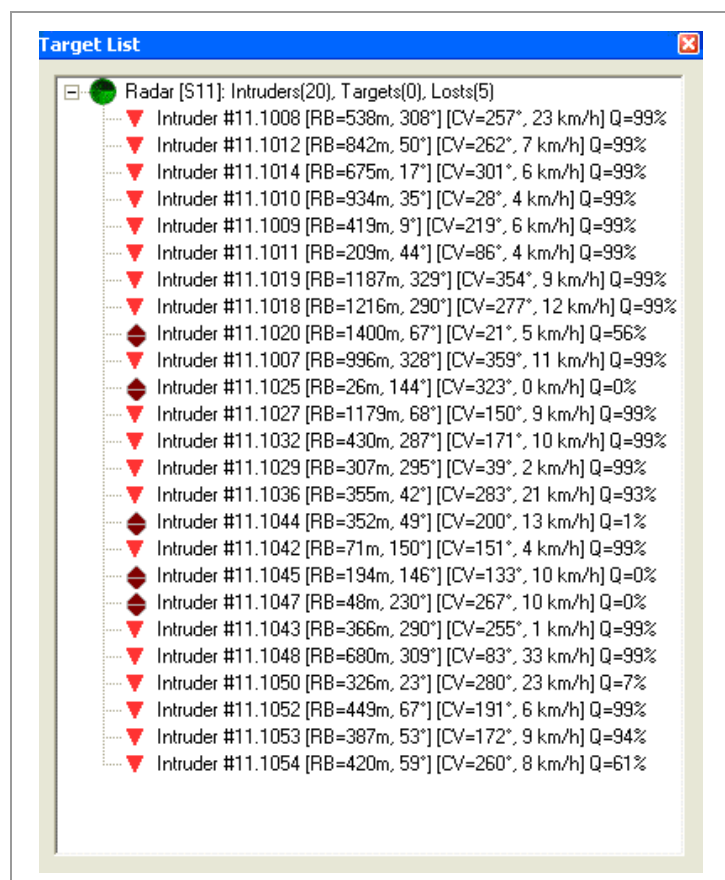

Figure 41 - Targets / Intruders Tree View
There are two alternate ways to display intruders and targets information: the List View and the Tree View. They are enabled via the Tools menu Targets/Intruders List View (Figure 40) and Targets/Intruders Tree View (Figure 41) commands.
In the Targets/Intruders List View, left clicking with the mouse on any column will sort the targets and intruders based on the selected column. This view is limited to a total of twelve (12) targets and intruders. If there are more, they won't be listed in this view. For a complete view, use the Targets/Intruders Tree View (Figure 41).